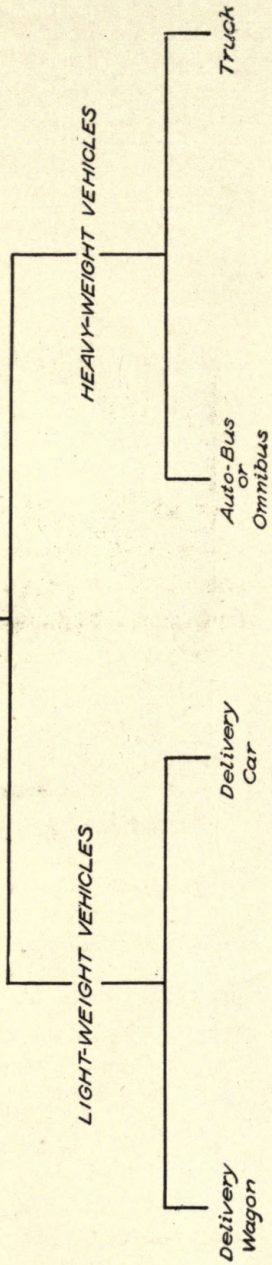

Fig. 177. Classification of Motor Vehicles.
We have already classified cars on the basis of their power plants and methods of power transmission. They may also be classified according to the special uses to which they are put, and from this standpoint fall under two broad headings—(1) Passenger Vehicles; (2) Commercial Vehicles. These groups may be further classified as shown in the accompanying diagram, Fig. 177.